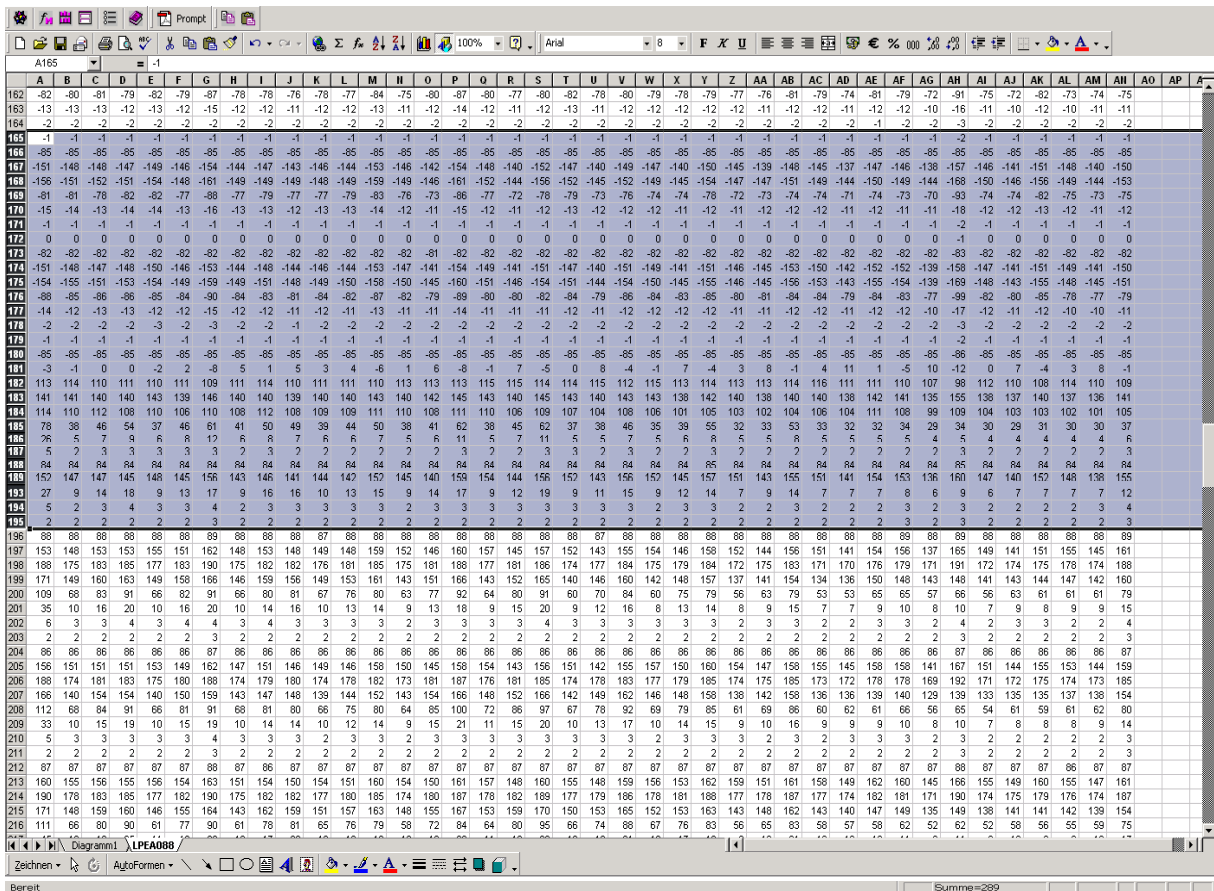
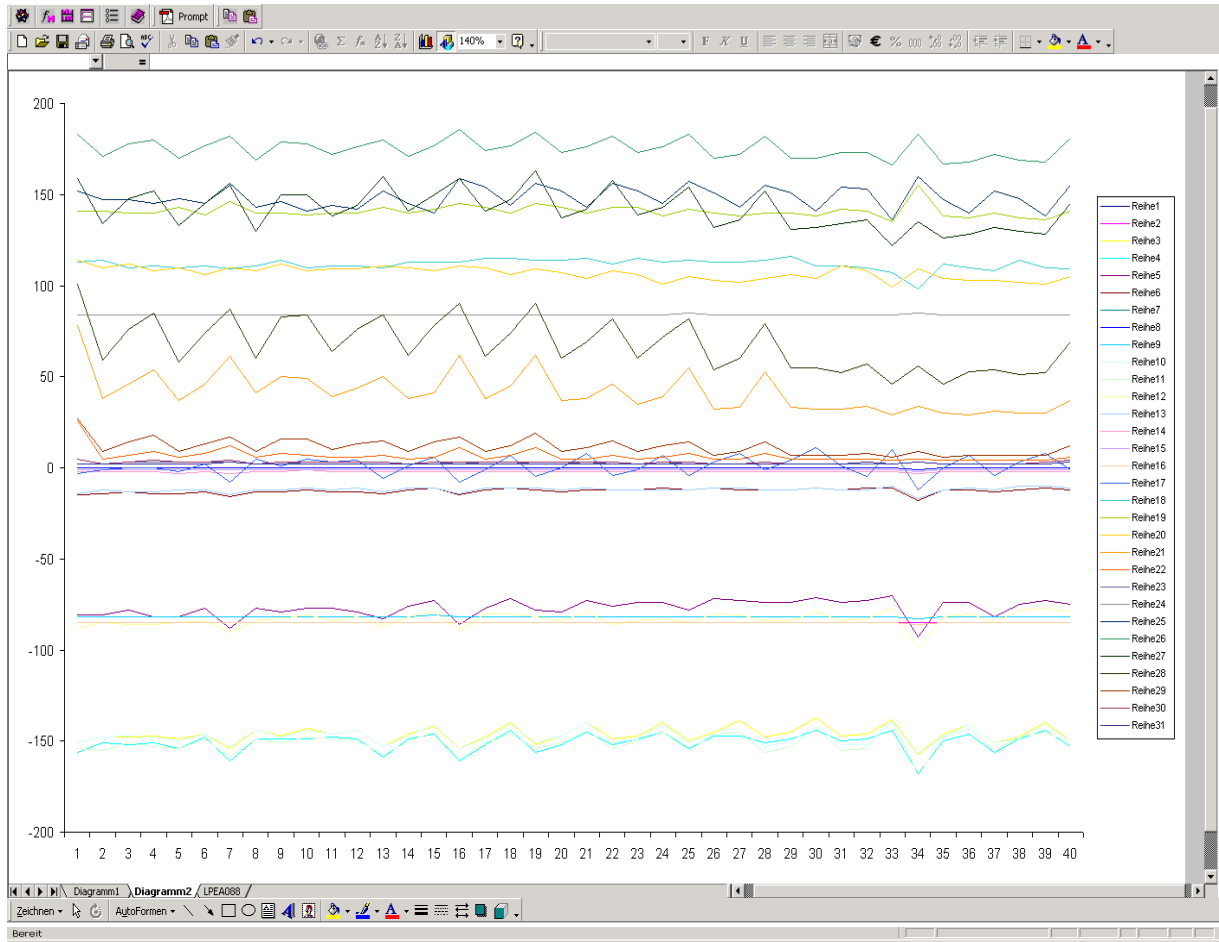

Fig5: Marking up to 255 rows is possible for a line plot of transposed data.
Fig.6: Each line now stands for a record, the horizontal axis now gives the leaf number.
- 6.) Another way to display the same data is to exchange rows and columns in the diagram wizard. The only complication is that Excel cannot plot more than 255 lines simultaneously. So activate rows 165 through 195 (Fig.5) and plot this with rows and columns exchanged (Fig.6).